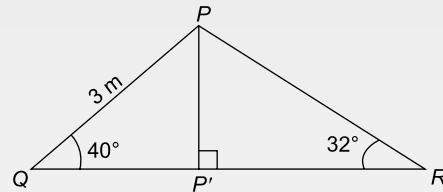

Figure RT1.5
6. Figure RT1.5 shows a roof truss PQR with rafter $PQ = 3 \text{ m}$. Calculate the length of (a) the roof rise PP' (b) rafter PR , and (c) the roof span QR . Find also (d) the cross-sectional area of the roof truss